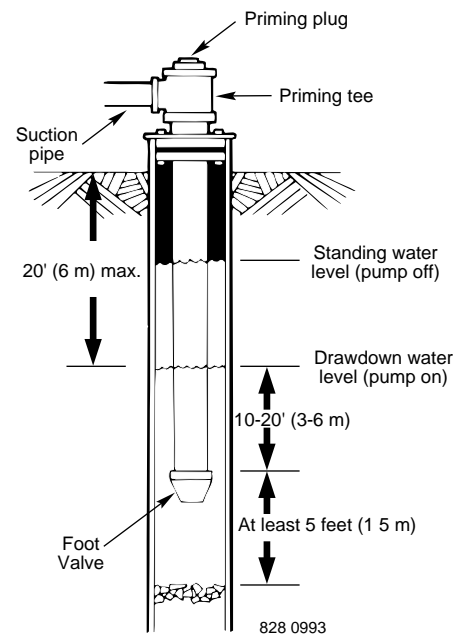
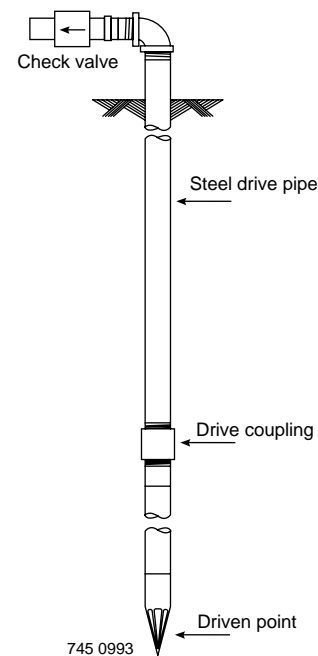

Figure 1 – Cased/Dug Well Installation
Figure 2 – Driven Point Installation
5. When using a foot valve, a priming tee and plug as shown in Figure 1 are recommended.
1. Connect the suction pipe to the drive point as illustrated in Figure 2. Keep horizontal pipe run as short as possible. Use Teflon tape on male pipe threads. Multiple well points may be necessary to provide sufficient water to pump.
2. To aid priming on well point installations, install a line check valve as shown in Figure 2. Be sure check valve flow arrow points toward pump.
**NOTICE:** For long horizontal pipe runs, install a priming tee between check valve and well head as shown in Figure 1. For driven point installations, install a check valve as shown in Figure 2. Be sure check valve flow arrow points **toward** pump.